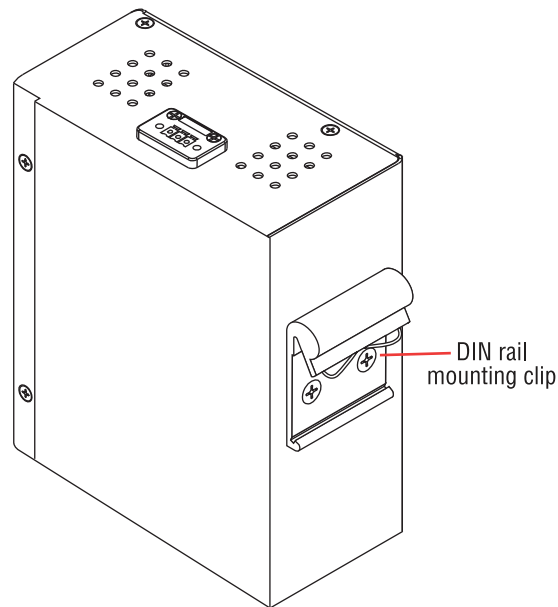
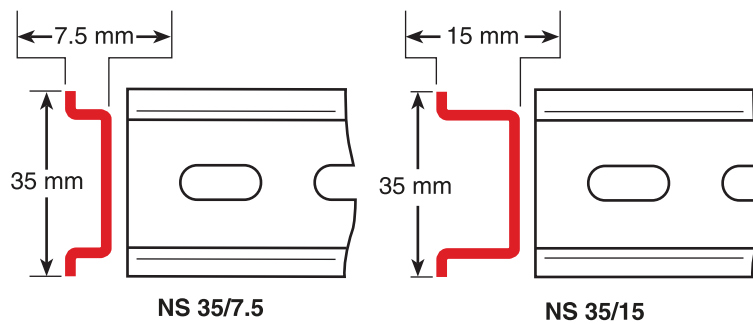

Figure 6. DIN rail mounting clip location
Figure 7. DIN rail types
1. The DIN rail mounting clip on the unit (see figure 6) can be attached to top hat NS 35/7.5 (35 H × 7.5 D mm) and NS 35/15 (35 H × 15 D mm) section types of DIN rail (see figure 7):